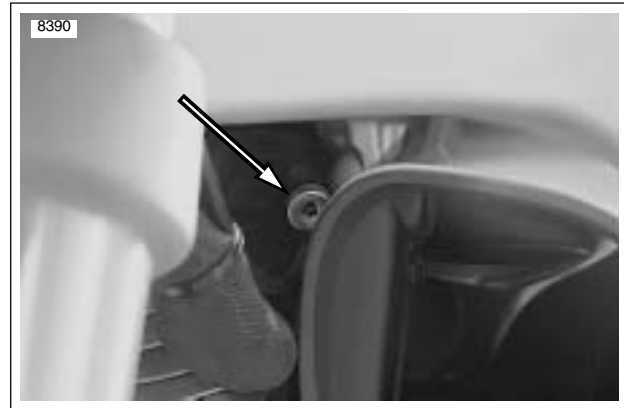

Figure 1-57. Idle Adjuster (behind left fork)
5. See Figure 1-57. Back off idle adjustment until TP volts stop decreasing and then continue to back out one full turn.